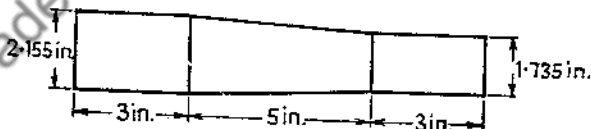

Fig. 12
(2) Calculate the taper in in./ft of the tapered section shown in fig. 12. Calculate also the set-over of the tailstock for turning the taper.
(3) Calculate the diameter of the workpiece shown in fig. 12 at a distance of 4.5 in. from the larger end.
(4) Calculate the distance from the smaller end of the workpiece shown in fig. 12 where the diameter is 2.000 in.